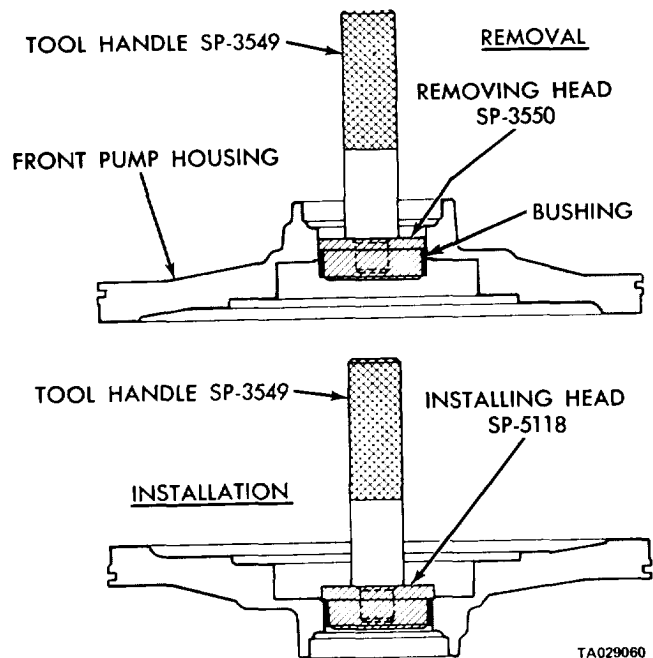

Figure 18-9. Replacing Pump Bushing.
(1) Place the pump housing on a clean, smooth surface, with the rotor cavity down.
(2) Place removing head tool SP-3550 in the bushing, and install handle tool C-4171 in the removing head (figure 18-9).
(3) Drive the bushing straight down and out of the bore. Be careful not to cock the tool in the bore.
(4) Position a new bushing on installing head tool SP-5118.
(5) With the pump housing on a smooth clean surface (hub end down), start the bushing and installing head into the bushing bore. Install handle tool C4171 in the installing head.
(6) Drive the bushing into the housing until the tool bottoms in the pump cavity. Be careful not to cock the tool during installation.